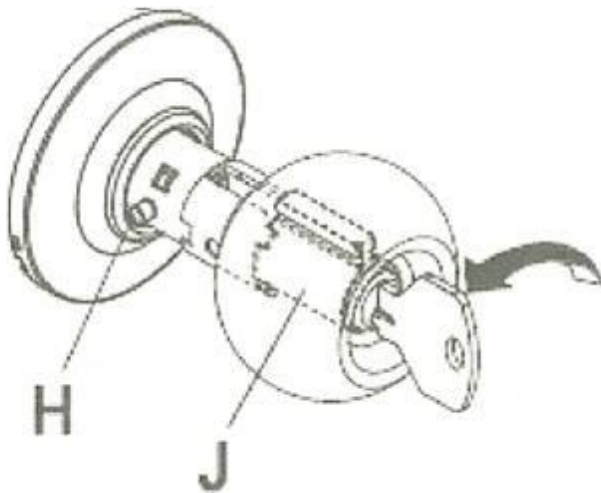

FIGURE 9-2
Install Hardware	<ol style="list-style-type: none">4. Install lockset and strike plate per instructions.<ol style="list-style-type: none">a. Be sure door latches easily but tightly with little rattleb. If it rattles. Bend tab inside the strike plate with flat blade screwdriver5. Install the security deadbolt strike plate (not that provided with lockset).<ol style="list-style-type: none">a. Set strike plate in place, predrill into Jack stud with 3/16" bit, secure with two large screws providedb. Make sure deadbolt is installed so top of lever turns in the direction of bold travel. If it does not, remove deadbolt from door, rotate 180° and reinstall6. Install lockset per instructions and make sure lockset and deadbolt key direction is the same (notches up). See Fig. 9-2 (Reverses side). If not:<ol style="list-style-type: none">a. Unlock the lock and insert the key half-way (do not insert completely)b. Push in retainer pin (H) on neck of knob, pull knob just past the pinc. Holding knob, rotate cylinder (J) to correct orientationd. Push in pin and push knob back in place.7. Verify Lockset and deadbolt operation. Adjust as needed for easy operation, door closes snugly, latches with little effort, deadbolt engages/disengages easily and moves in same direction as top of lever